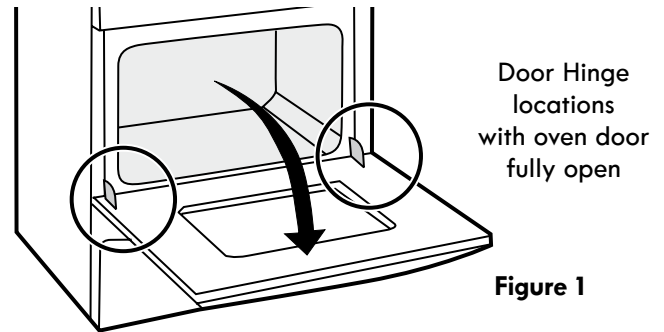

Figure 1
3. Fully open the oven door (horizontal with floor - See Figure 1).
2. Locate glide lever on each side of drawer, pull up on the left glide lever and push down on the right glide lever (See Figure 1).